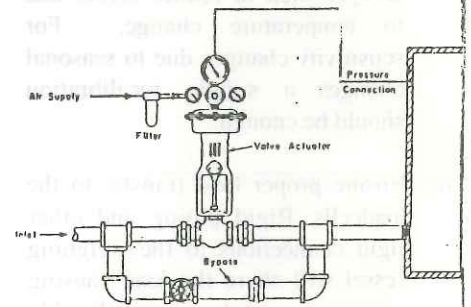

Fig. 2 Air operated pressure controller
- vi) Simple air-operated pressure controller is used in many plants for reducing steam pressure (Fig. 2).